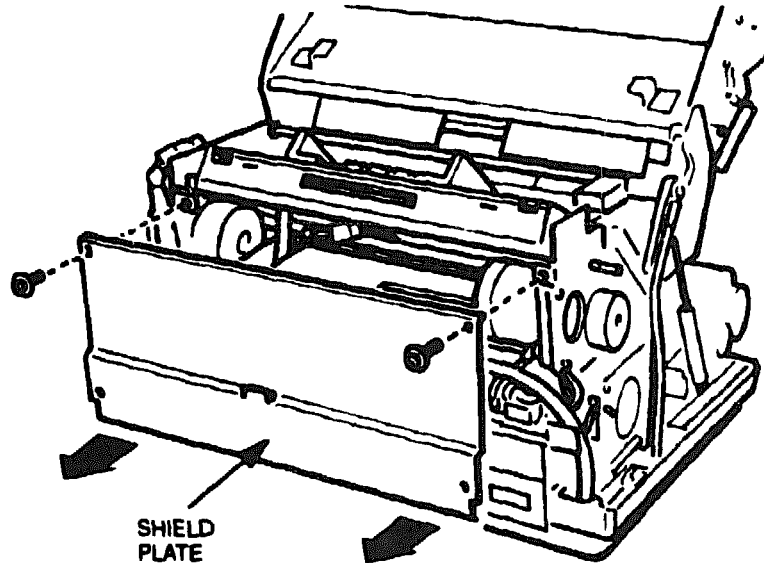

Figure 6-62 Shield Plate
2. Remove the two screws securing the shield plate to the rear of the printer frame. Then remove the shield plate from the frame (see Figure 6-62).